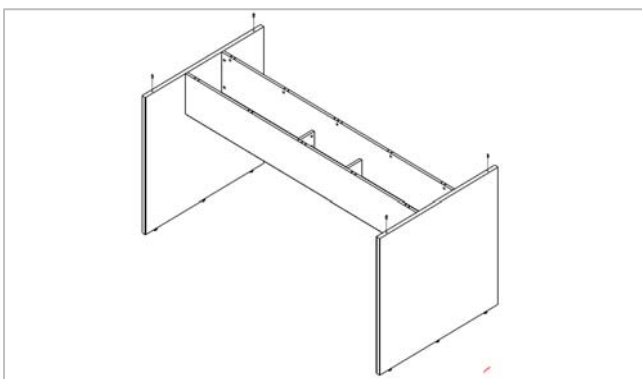

Fig. 6
Fig. 6 Ensure all Cam Dowels are tight and flip the entire Base Sub Assembly into an upright position (End Panel Glides down). Be careful not to damage End Panel edges and corners. Install (4) 8mm Dowel Pins into the (2) End Panels.